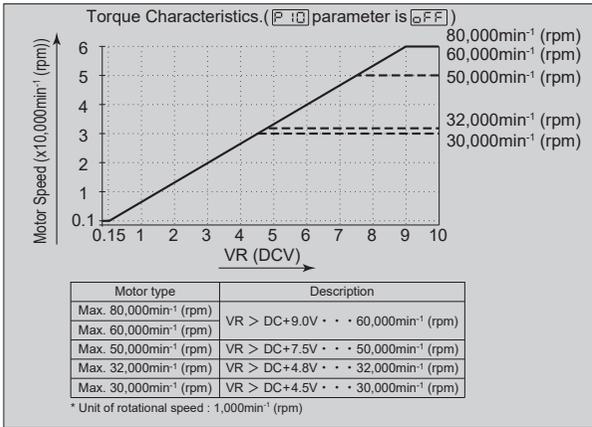
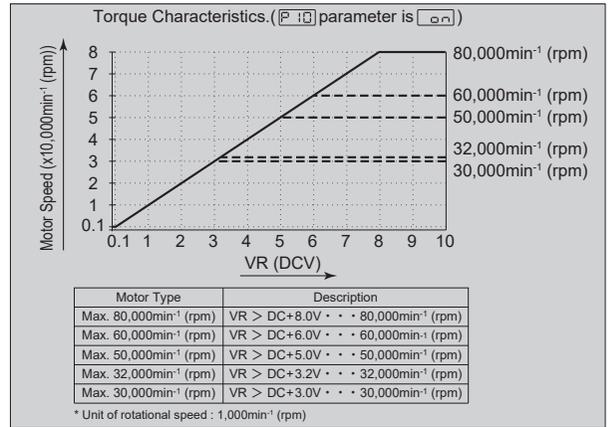
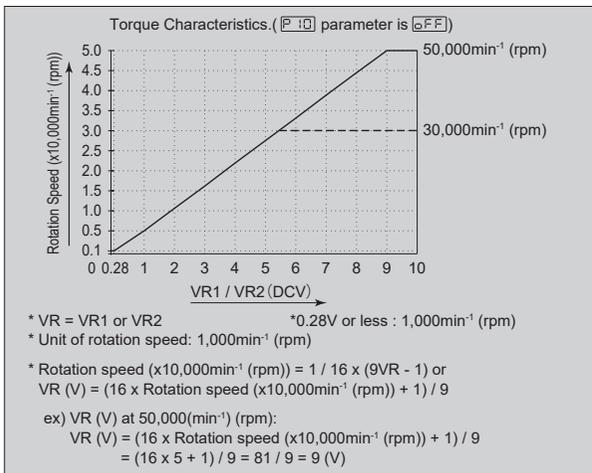
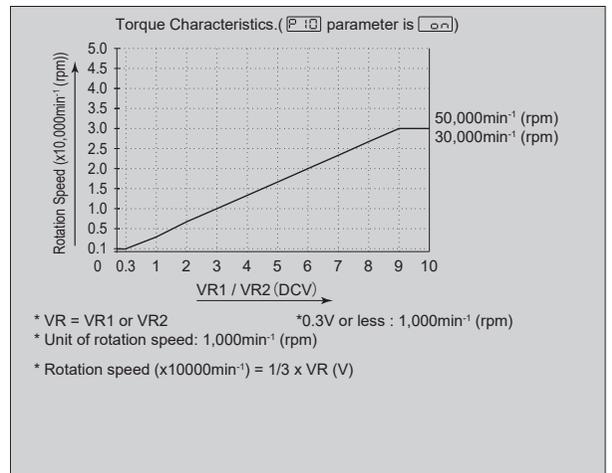

Fig. 60
Fig. 61
Fig. 62
Fig. 63
- (1) Except when E2280 compatible output (parameter **P 14**) and E2280 motor selection (parameter **P 15**) is selected
- For the characteristics of the VR and rotation speed by parameter **00** and **0FF**, refer to Fig. 60 and Fig. 61.
- (2) When of E2280 compatible output (parameter **P 14**) or E2280 motor selection (parameter **P 15**) is selected.
- For the characteristics of the VR and rotation speed by parameter \square{on} and \square{FF} , refer to Fig. 62 and Fig. 63.